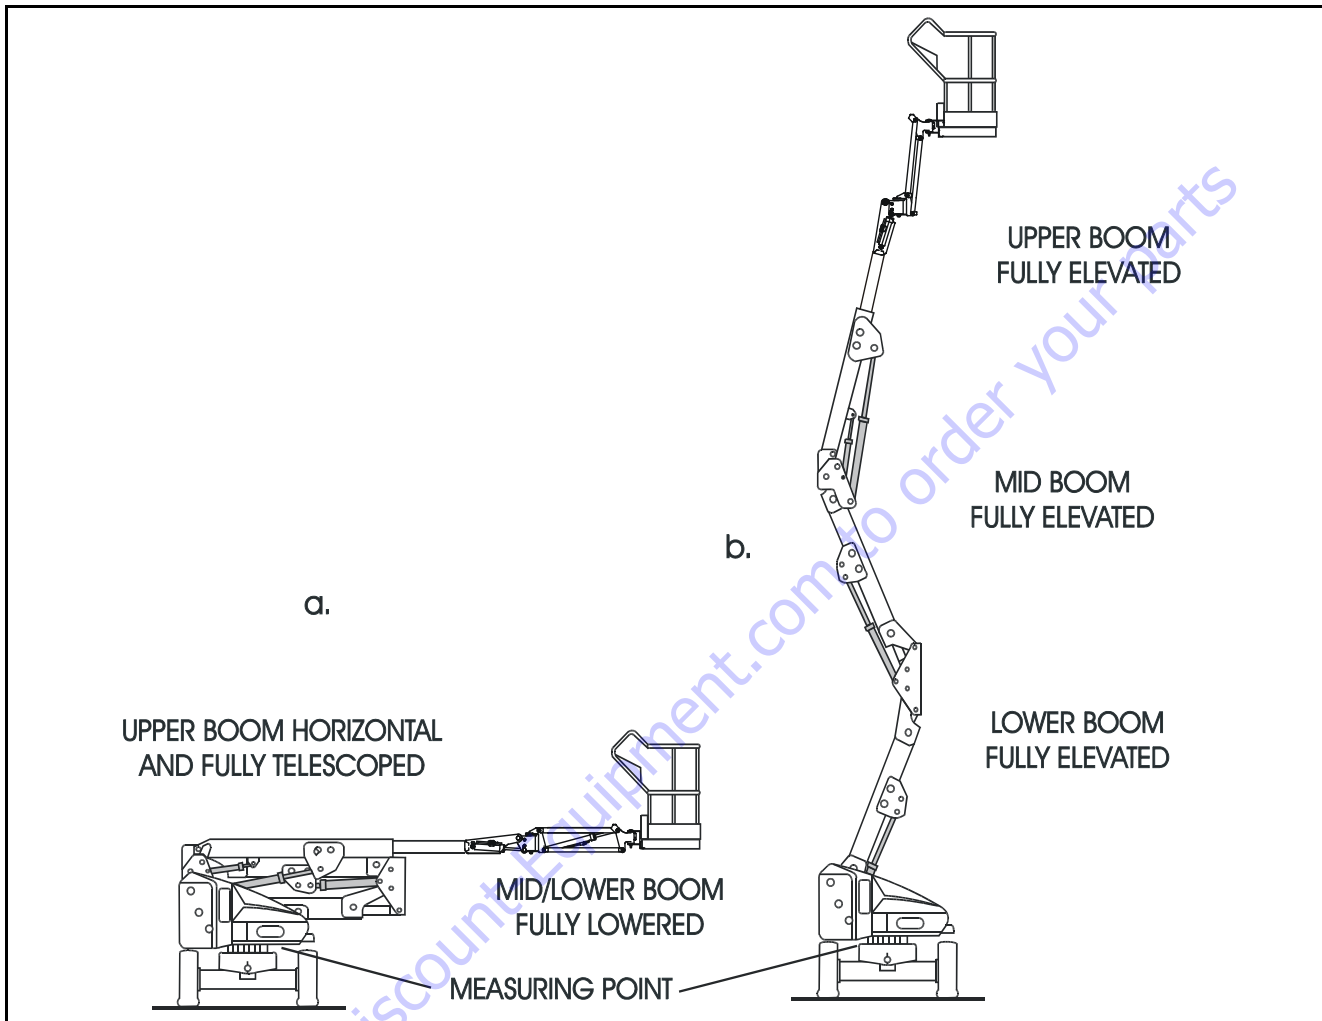
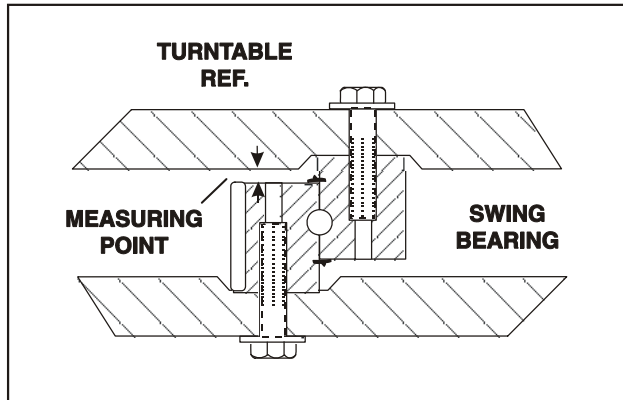

Figure 3-13. Swing Bearing Tolerance Boom Placement
Figure 3-14. Swing Bearing Tolerance Measuring Point
- b. At the positions indicated on Figure 3-13. try and insert the 0.0015" feeler gauge between the bolt head and hardened washer at the arrow indicated position.
fully extended and Mid/Lower Boom stowed, (See Figure 3-13.), using a magnetic base dial indicator, measure and record the distance between the swing bearing and turntable. (See Figure 3-14.)
2. At the same point, with the boom positioned over the side of the machine, the Upper Boom fully elevated and the Mid/Lower Boom fully elevated, (See Figure 3-13.) using a magnetic base dial indicator, measure and record the distance between the swing bearing and turntable (See Figure 3-14.).